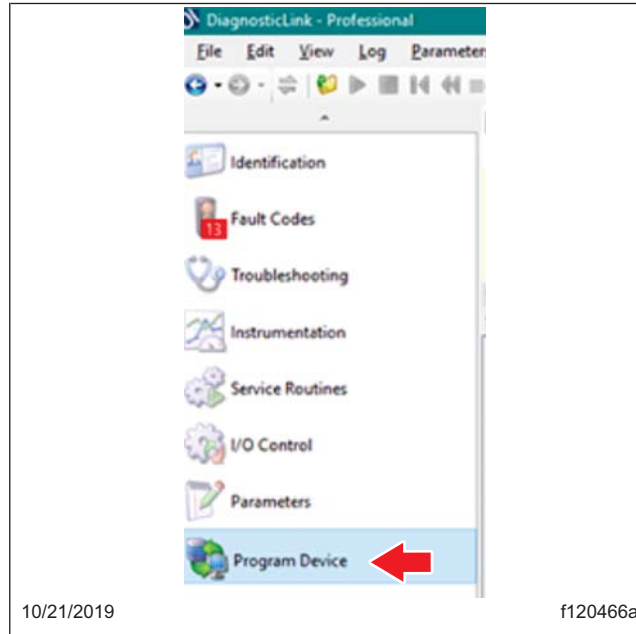
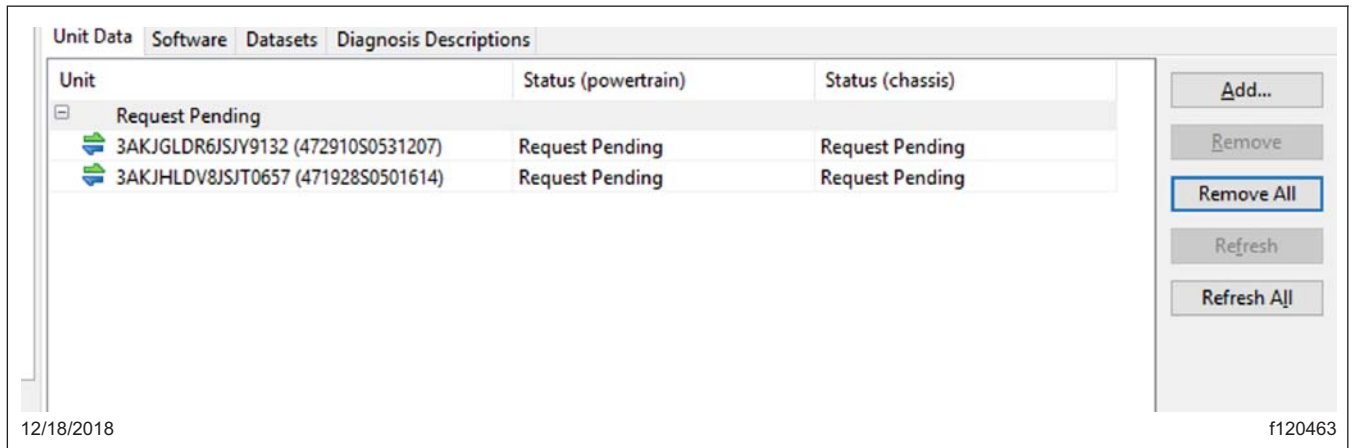

Fig. 2, Program Device Screen
Fig. 3, Removing Pending Requests
3. Select "Program Device." See Fig. 2 . If there are any items in the section "Request Pending" downloads, they should be removed. To remove them, select the "Request Pending" list item, then press the "Remove All" button. See Fig. 3.